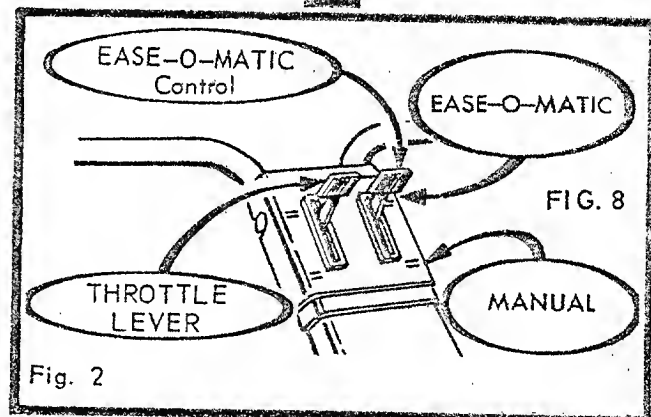

Fig. 2
1. (Fig. 2) Set operating control lever in EASE-O-MATIC position. Raise handle to start . . . lower to stop, for easy maneuverability.